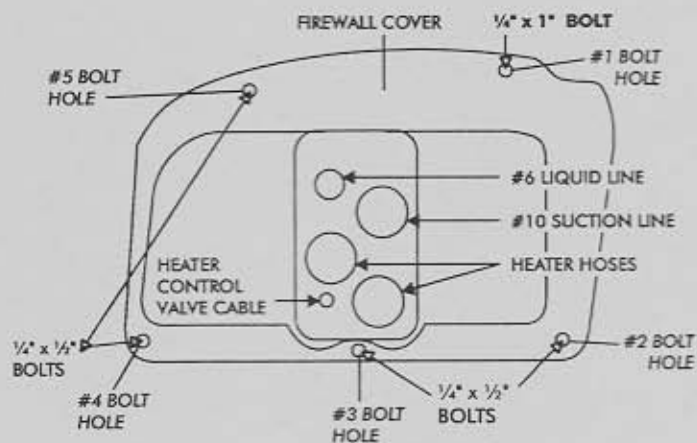
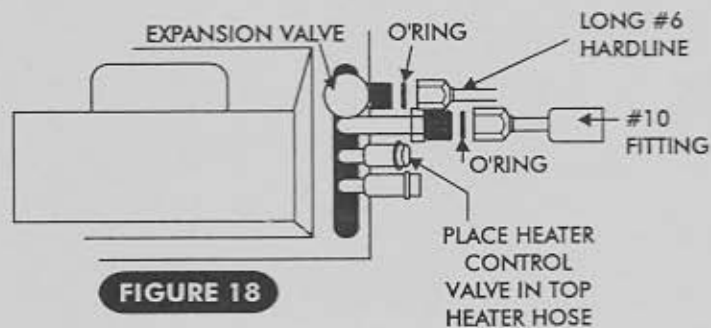

FIGURE 13
FIGURE 18
FIREWALL COVER INSTALLATION (SEE FIGURE 13)
- APPLY A BEAD OF SEALER (1/4" TALL) AROUND THE INSIDE EDGE OF FIREWALL COVER AND INSTALL ON THE OUTSIDE OF THE FIREWALL USING FOUR (4) 1/4" x 1/2" BOLTS & NUTS SUPPLIED.
- ATTACH FRESH AIR CAP TO FIREWALL WITH 1/4" x 1" BOLT & 1/4" BEAD OF SILICONE. (SEE FIGURE 13).
- WITH STUD IN PLACE RAISE EVAPORATOR UP AND ALIGN STUD WITH FIREWALL BOLT HOLE #1 (SEE FIGURE 13).
- LOCATE THE (EXPANSION VALVE TO FENDER) #6 HARDLINE AND TWO (2) #6 O'RINGS. LUBRICATE O'RINGS (SEE FIGURE 4, PG. 4) AND ROUTE 90° END THRU TOP FIREWALL COVER OPENING (SEE FIGURE 13) AND ATTACH HAND TIGHT TO EXPANSION VALVE (SEE FIGURE 18, PG. 7). ATTACH OTHER END TO THE #6 HARDLINE FROM THE DRIER. TIGHTEN AT EXPANSION VALVE USING TWO (2) WRENCHES (SEE FIGURE 5, PG. 4) THEN TIGHTEN THE CONNECTION INSIDE THE FENDER-WELL. ALSO TIGHTEN THE CONNECTION AT THE DRIER.
- LOCATE THE #10 SUCTION HOSE AND TWO (2) O'RINGS. LUBRICATE O'RINGS AND THREADS (SEE FIGURE 4, PG. 4). PUSH STRAIGHT END THRU FIREWALL COVER OPENING (SEE FIGURE 13, PG. 6) FROM ENGINE SIDE AND ATTACH TO THE SUCTION FITTING ON EVAPORATOR (SEE FIGURE 18). INSTALL 135° END TO SUCTION PORT ON COMPRESSOR. SEE FIGURE 19 ON PG. 8.